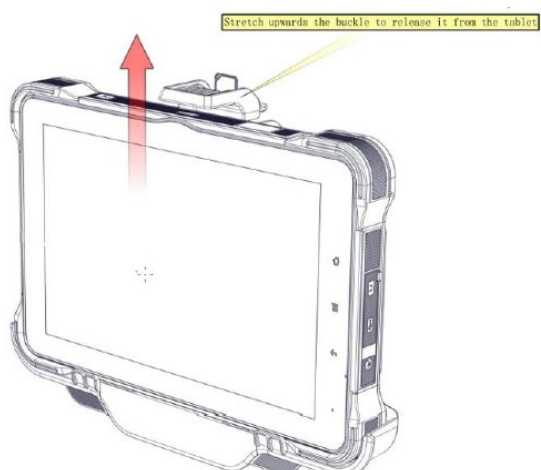

Fig. 4-6
1. Stretch upwards the buckle to release it from the device, as Fig 4-6 shown.